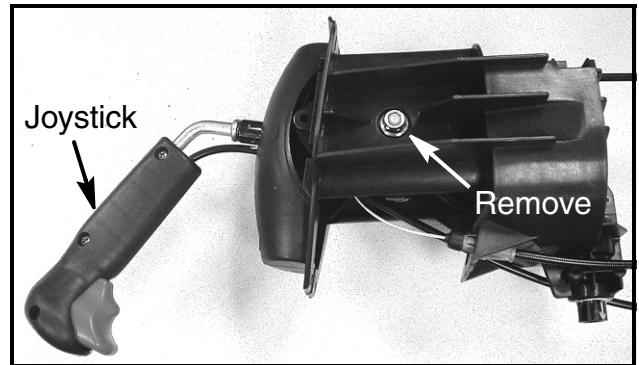

FIGURE 7
10. Using a 1/2" socket and ratchet, hold the joystick with one hand and remove the flange lock hex nut securing the upper chute's pitch control bracket to the LH housing half. See Figure 7.
31. Flip the chute control assembly over and install the 5/16" flange lock nut removed in Step 10. See Figure 7.